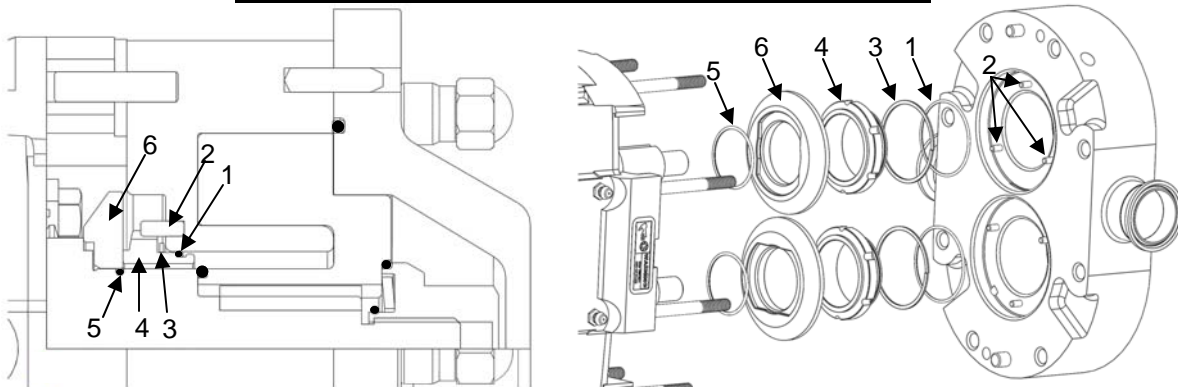

Figure 27: Single Mechanical Seal
- 1) Remove the Inner stationary seals from the pump body (Figure 27, item 4).